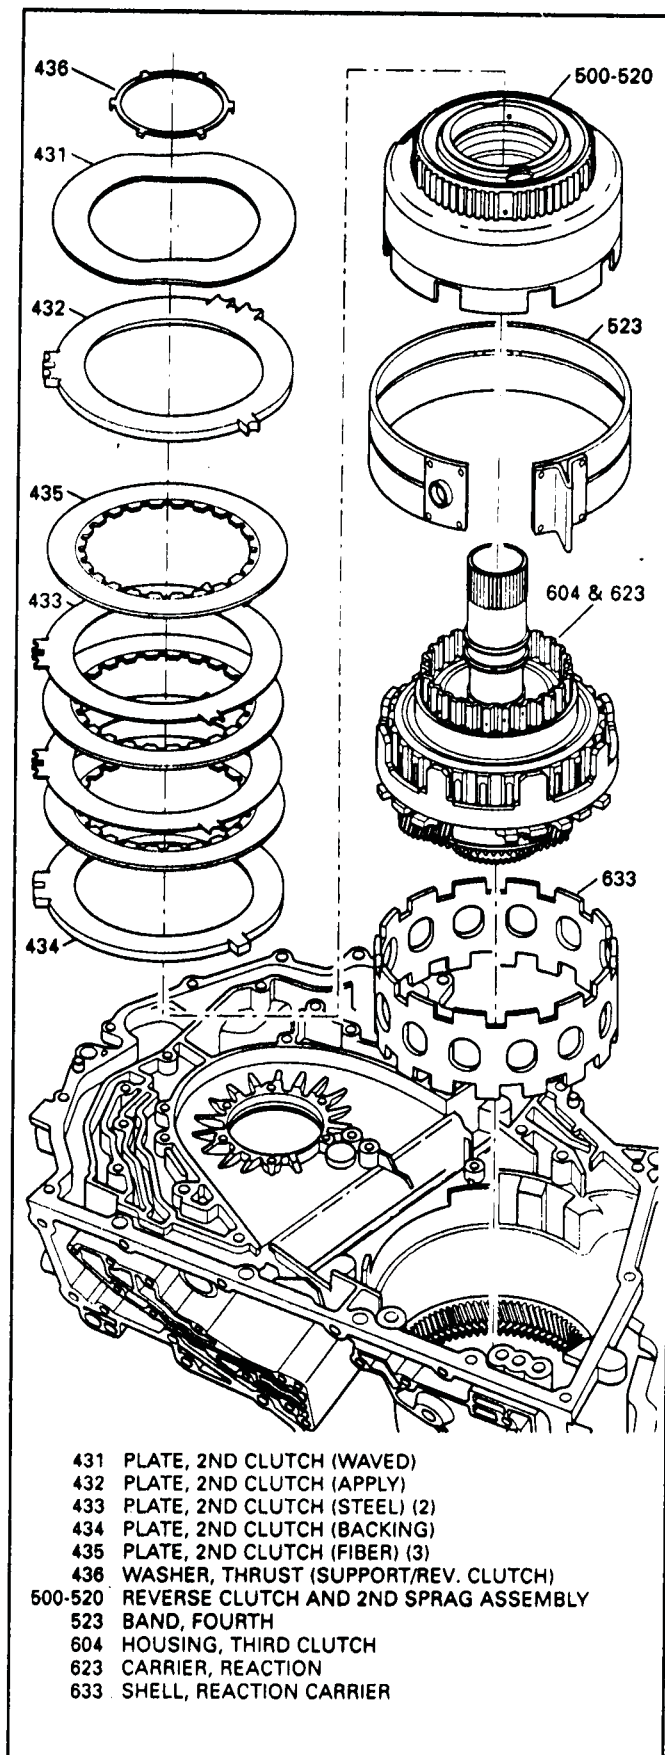

Figure 57
1. Remove the 2nd clutch plates, pushing up near scavenge tube channel and the bottom pan side (See Figure 57).
2. Remove reverse clutch support thrust washer (See Figure 57).
3. Remove reverse clutch housing and 2nd sprag assembly (See Figure 57).
5. Remove 3rd clutch housing and reaction carrier assemblies by grasping input shaft and lifting (See Figure 57).
6. Remove the reaction carrier shell. (See Figure 57).